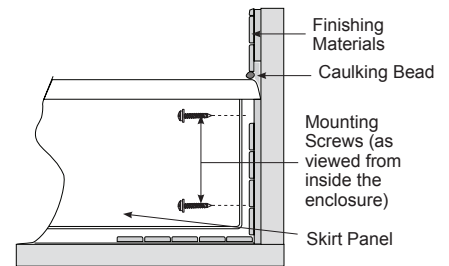

Fig. 14
1. Screw skirt flanges into wall studs, Figure 14.